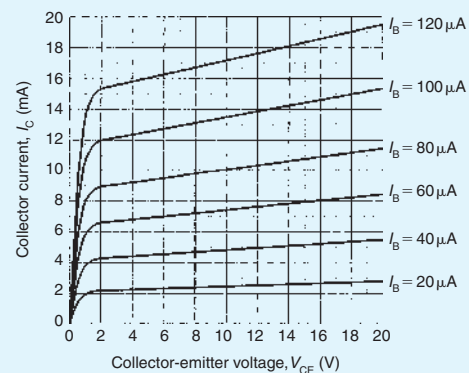

Figure 12.27
- The output characteristics for a BJT are shown in Fig. 12.27. If this device is used in a common-emitter amplifier circuit operating from a 12 V supply with a base bias of $60 \mu\text{A}$ and a load resistor of $1 \text{ k}\Omega$, determine